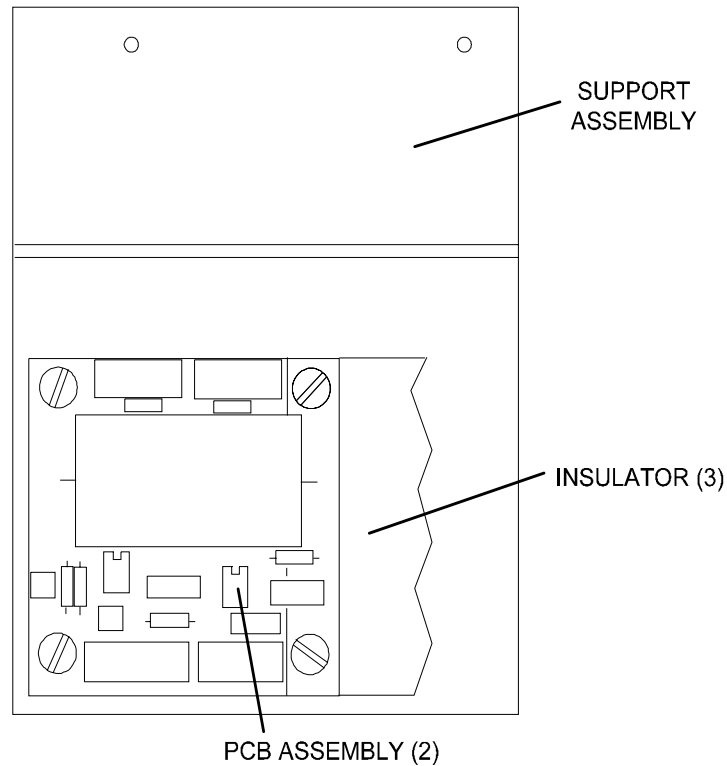

Figure 1
5. Install the new interface board assembly (1) in the same location as the old one.
6. Install the new motor direction PCB assembly (2) and insulator (3) on the support assembly. Align the insulator on the right side of the PCB so that it will be between the PCB and the turret motor when installed in the machine. Secure the insulator **between** the PCB assembly and the standoffs as shown (See Figure 1).
7. Install the triac and bracket assembly (4) on the compressor base using the same mounting holes from the refrigeration relay.
8. Install the dc jumper (5), from the new interface,PCB assembly (1) to the new motor direction assembly (2) and the refrigeration triac and bracket assembly (4).